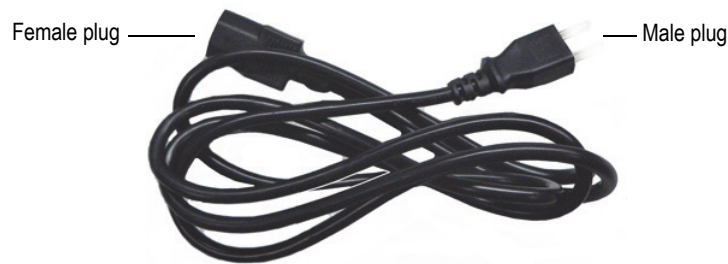

Figure 3-14 AC adaptor power cord
1. Connect the three-prong male end of the power cord into the receptacle (see Figure 3-14 on page 63).